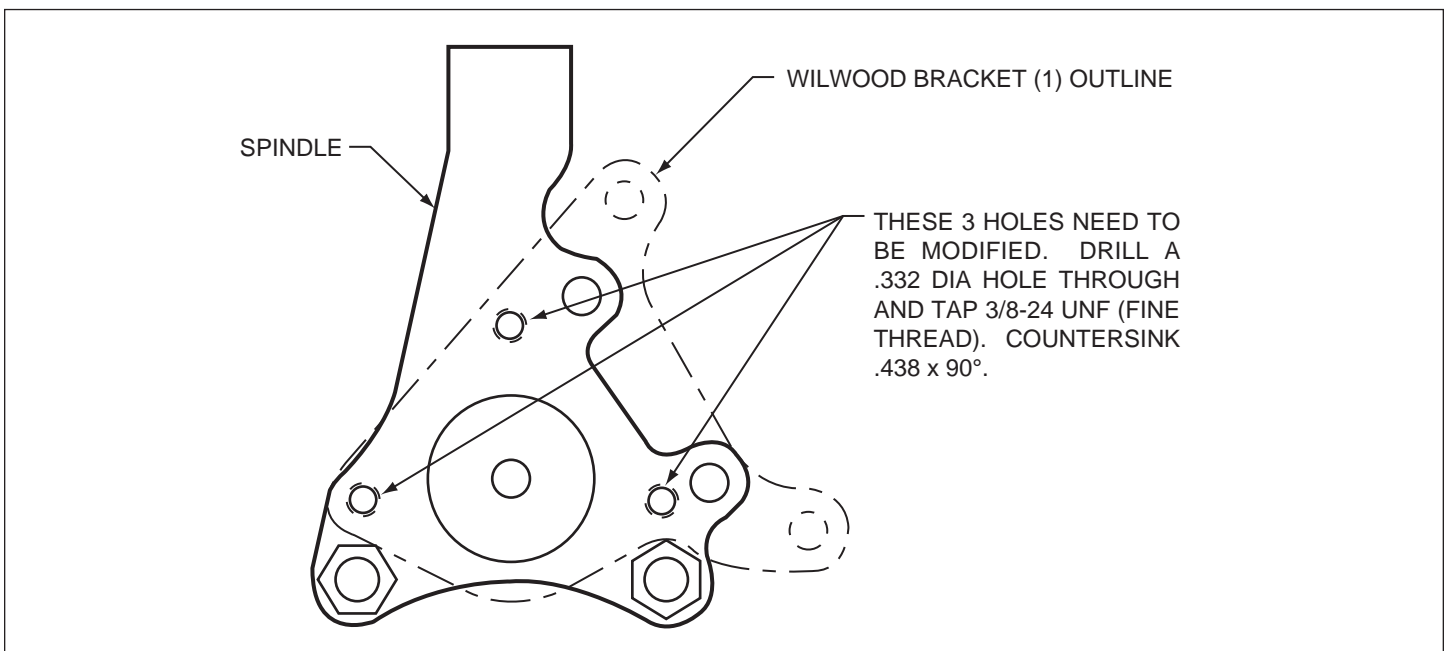

Figure 1. Steering Arm / Spindle Modifications
These modifications should be performed by a qualified machinist. Refer to Figure 1 as necessary (numbers in parenthesis refer to the parts list on page four). Only one view of the steering arm/spindle is shown, but the modifications need to be performed on both steering arm/spindles.
- Mount the adapter/rotor assembly (7/8) to the hub (4) using bolts (10) (finger tight), as shown in Figure 1. Using an alternating sequence, remove bolts one at a time, apply red *Loctite*® 271 to the threads, and torque to 55 ft-lb.
- Pack the small outer bearing cone (11) with high temperature disc brake bearing grease. Lightly coat the spindle bearing surfaces with bearing grease. Slide the hub/rotor assembly (4 and 8) with outer bearing cone (11) onto the spindle. Secure using spindle washer (12), existing adjusting nut and nut locking device.